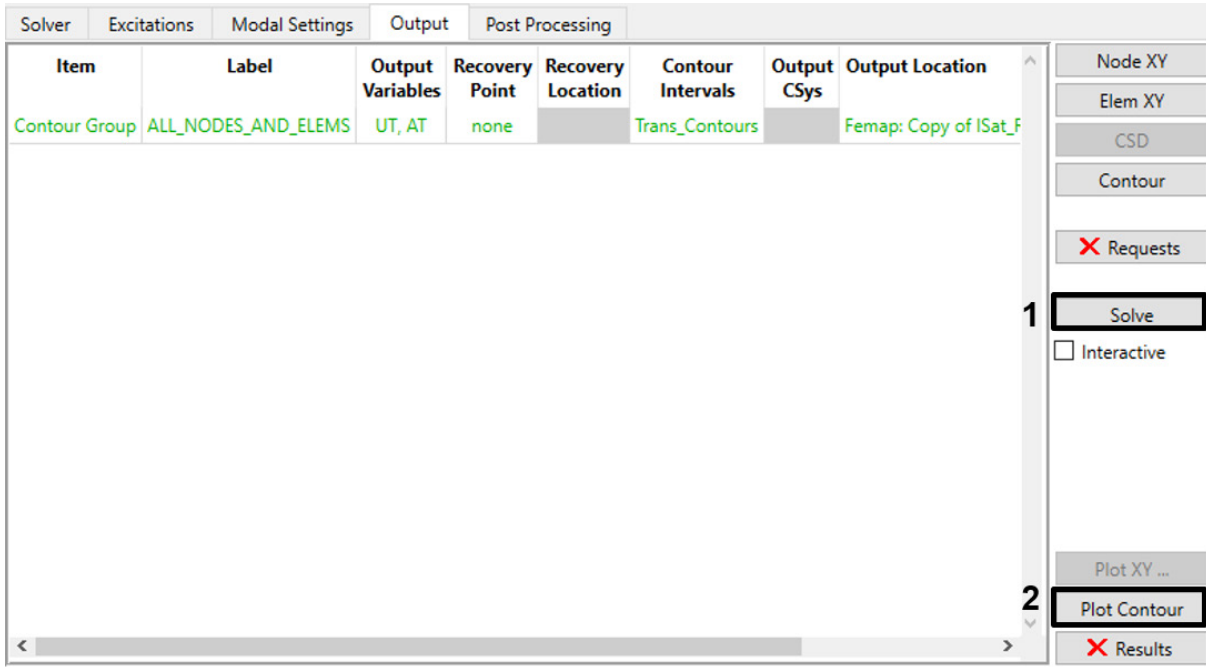
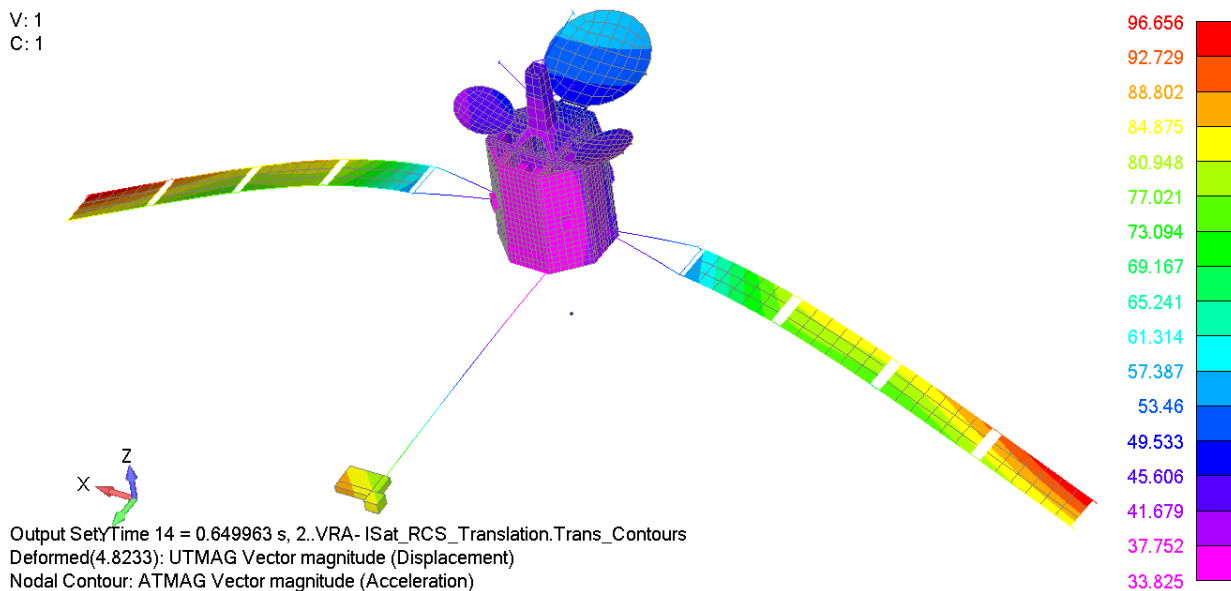

Figure 4-99. Solve for the requested contours and then plot them.
Figure 4-100. Contours of acceleration on deformed mesh for output frame 14.
- On the Output tab again, click **Solve** to compute and store the requested contours (Figure 4-99). When the solver finishes, click **Plot Contour** to view the results in Femap. You can simply double-click in Femap’s graphics window to start the animation. You can also do any of the usual postprocessing operations such as showing contours of total acceleration on a deformed mesh for a specific time step, as in Figure 4-100.